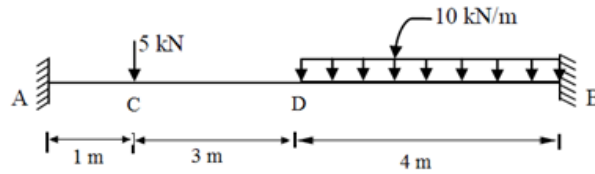

Figure 6
- (b) Analyse the fixed beam shown in Figure 6 and draw bending moment diagram. [7M]